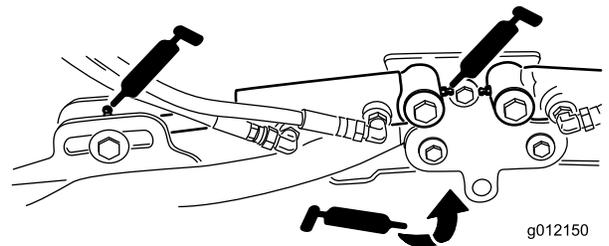

Figure 65
- Cutting-unit lift-arm cylinders (2 each) (Figure 65)
- Lift-arm pivots (1 each) (Figure 65)